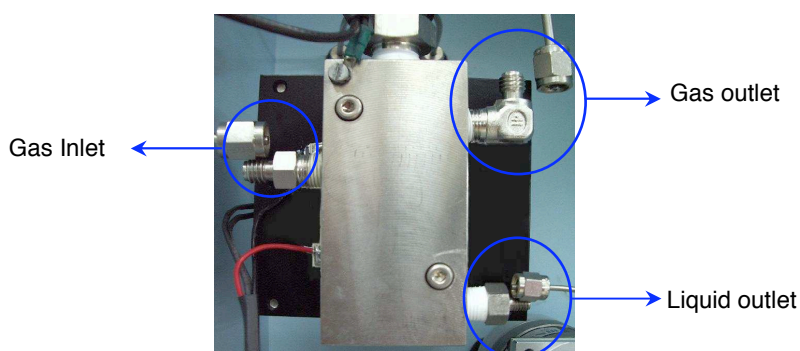

Figure 4-28
- Loosen and remove the 3 connectors on the tank that are shown in Figure 4-28 in the following manner: